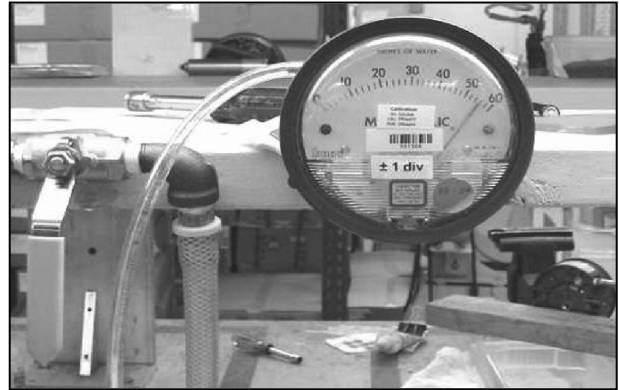

Figure 32. Magnehelic Gauge Connection to Hose Barb
3. Apply compressed air, wait for air to exit the hose barb in the test port, and then connect the Magnehelic gauge (Figure 32) to the hose barb using the vacuum hose or vinyl tubing. This prevents the gauge from reading maximum pressure due to the large velocity of compressed air entering the primary chamber.